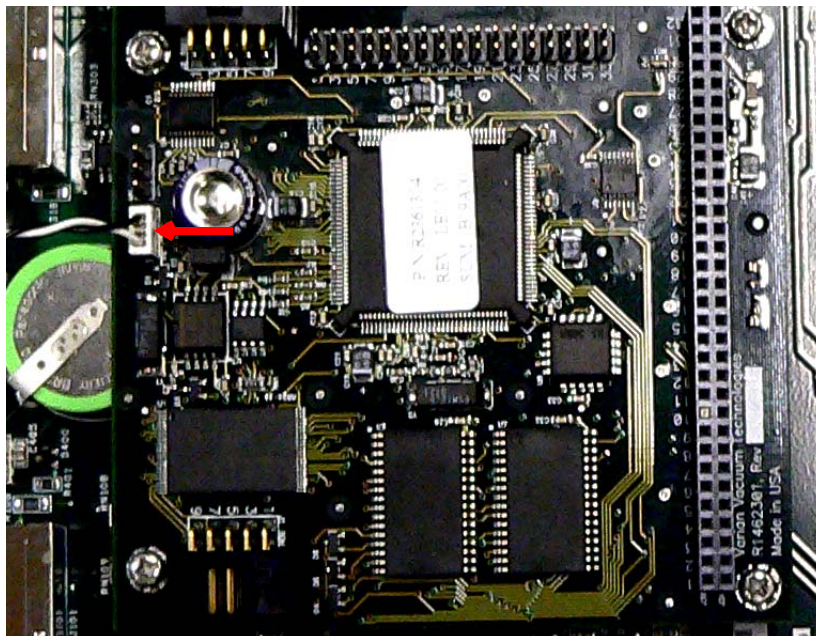

Figure B-27 J100 Connector
- Disconnect R2142-301 (white/black) connector from the J100 connector (Figure B-27).
11. Reconnect R2142-301 (white/black) connector to the J100 connector (Figure B-27 on page B-19).